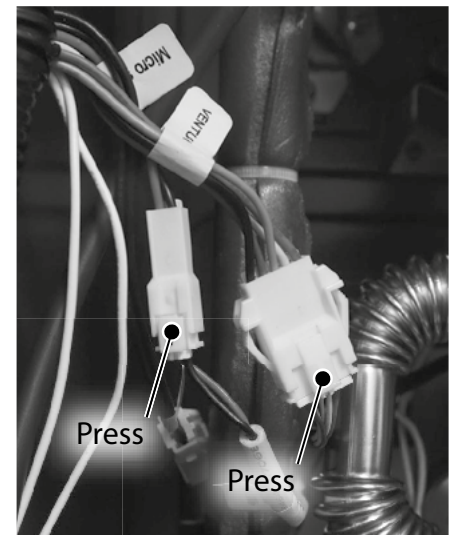

Figure 3 - Locate venturi wire harnesses
- 8** Locate the venturi wires (2x) and disconnect them as shown in Figure 3. Wires are labeled "Venturi" and "Micro Switch." These wires are connected at and run through the black cable conduit located on the left side of the water heater cabinet.